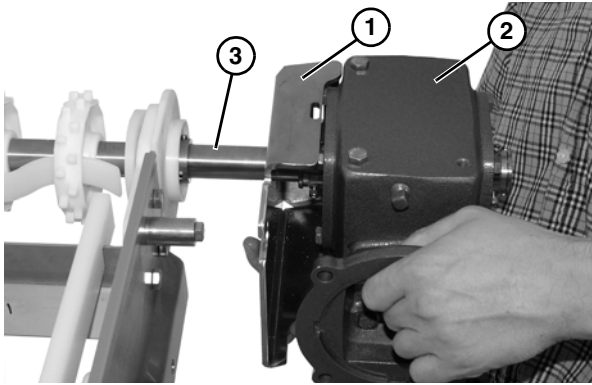

Figure 5
2. Install mounting bracket (**Figure 5, item 1**) onto gear reducer (**Figure 5, item 2**) with screws.
3. Install key onto conveyor shaft (**Figure 5, item 3**), and slide gear reducer assembly onto shaft.